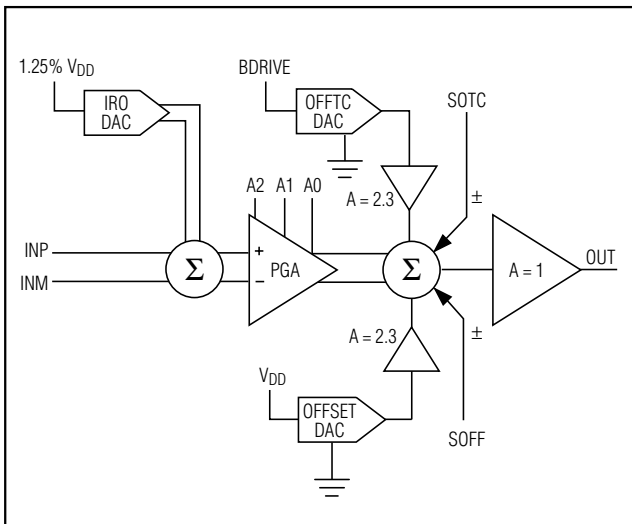

Figure 3. Signal-Path Block Diagram
Compensating offset TC errors involves first measuring the uncompensated offset TC error, then determining what percentage of the temperature-dependent voltage V_{BDRIVE} must be added to the output summing junction to correct the error. Use the offset TC DAC to adjust the amount of B_{DRIVE} voltage that is added to the output summing junction (Figure 3).
- Differential to single-ended output buffer with rail-to-rail output (Figure 3)